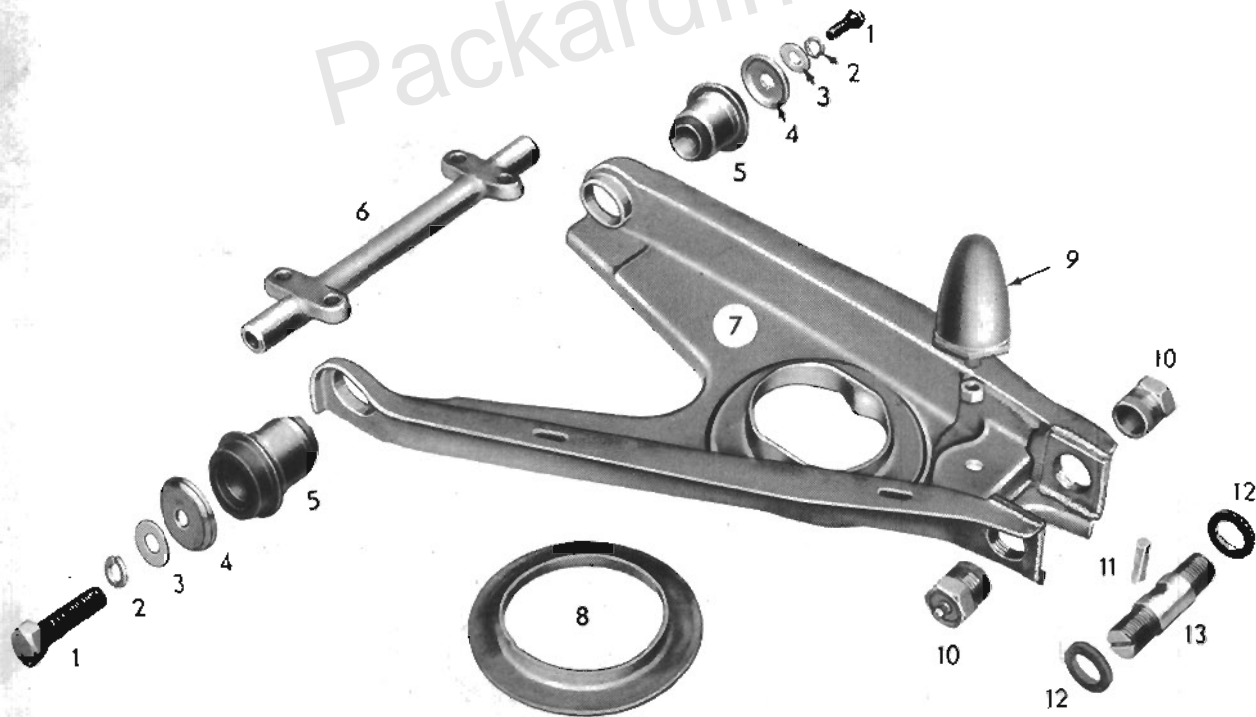
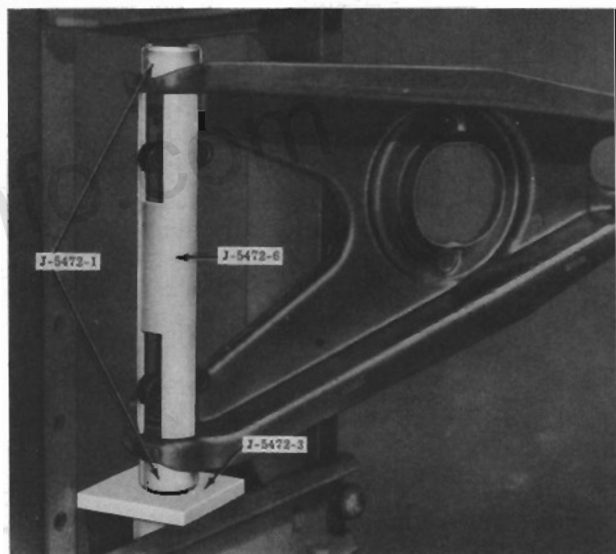

FIG. 8
FIG. 10
Rubber jounce bumpers (9, Fig. 8) are fastened to each of the lower control arms to prevent damage to the suspension parts on severe bumps. To remove the jounce bumper, remove the stud nut through the hole in the lower side of the lower control arm, and take the rubber bumper off the top of the arm.
Disconnect the inner end of the lower control arm to allow the removal of the front spring and spring pad as outlined under Front Spring—Removal. Remove the threaded bushings (10, Fig. 8) from the outer end of the lower control arm (7). Remove the tapered lock pin (11) by driving it upward with a suitable pin punch. Then, using a brass drift, drive the lower control arm outer pin (13) out of the lower steering knuckle support, permitting removal of the lower control arm (7) and grease seals (12).
Insert one end of the inner shaft in one member of the control arm, push in as far as possible, swing the opposite end into position, and insert it in the other member of the arm. Then place the J-5472-6 Large Spacer in position between the ends of the control arm as shown in Fig. 10. Start the rubber bushings in the holes at either end of the control arm. Place a J-5472-1 Large Installer in position on each bushing and, using an arbor press, force both bushings in place until the shoulder on the outer sleeve of the bushing is seated against the control arm. Do not attempt to seat the flange of the bushing on the control arm. Install bushing caps (4, Fig. 8), flat washers (3), lock washers (2), and cap screws (1). After the control arm has been installed in the car and the weight of the car is on the springs, tighten the cap screws to 65 ft-lbs (9.0 kg-m) torque.